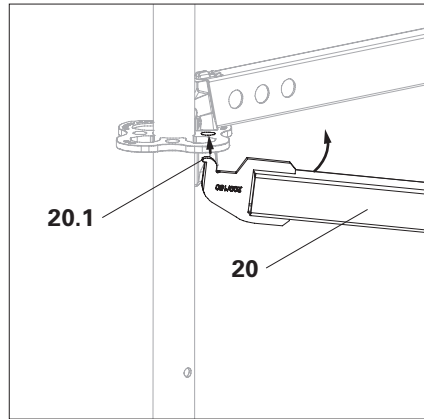

Fig. A4.02a
1. Thread the mounting lug (**20.1**) of the horizontal brace (**20**) from below into the brace adapter receptacle of the first rosette and secure it by swivelling the brace upwards. (Fig. A4.02a + A4.02b)